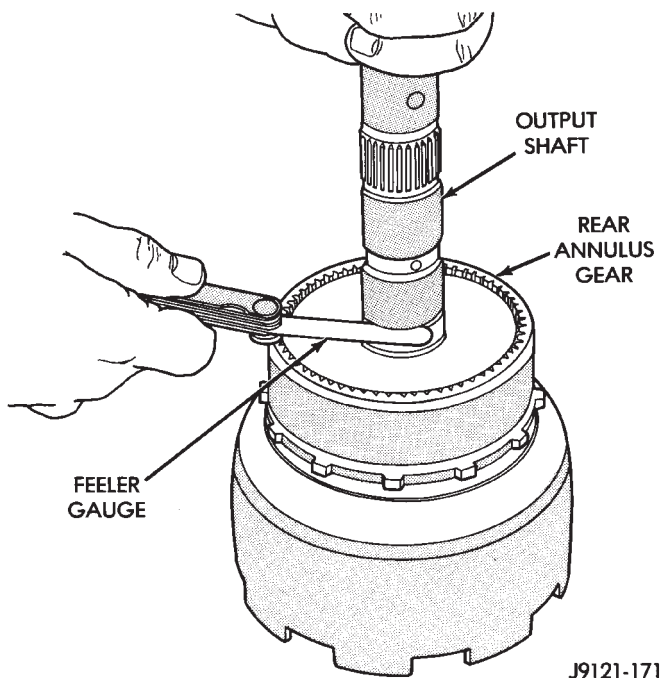

Fig. 181 Checking Planetary Geartrain End Play
(22) Turn planetary geartrain assembly over so driving shell is facing workbench. Then support geartrain on wood block positioned under forward end of output shaft. This allows geartrain components to move forward for accurate end play check.
(23) Check planetary geartrain end play with feeler gauge (Fig. 181). Gauge goes between shoulder on output shaft and end of rear annulus support.
(24) Geartrain end play should be 0.12 to 1.22 mm (0.005 to 0.048 in.). If end play is incorrect, snap ring (or thrust washers) may have to be replaced. Snap ring is available in three different thicknesses for adjustment purposes.